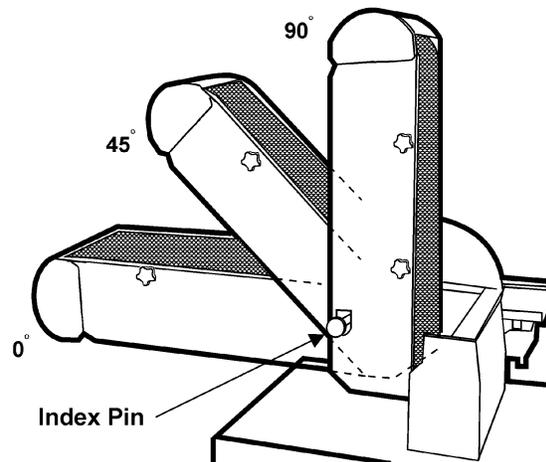

Figure 19
2. Pull out on the index pin (Figure 19), and swing the belt arm into the desired position. Then release the index pin.
Flat surface and contour sanding can be done in the horizontal, 45-degree, and vertical position of the belt arm. To change position, pull out the index pin and swing arm to the desired position, then release index pin (see Figure 19).